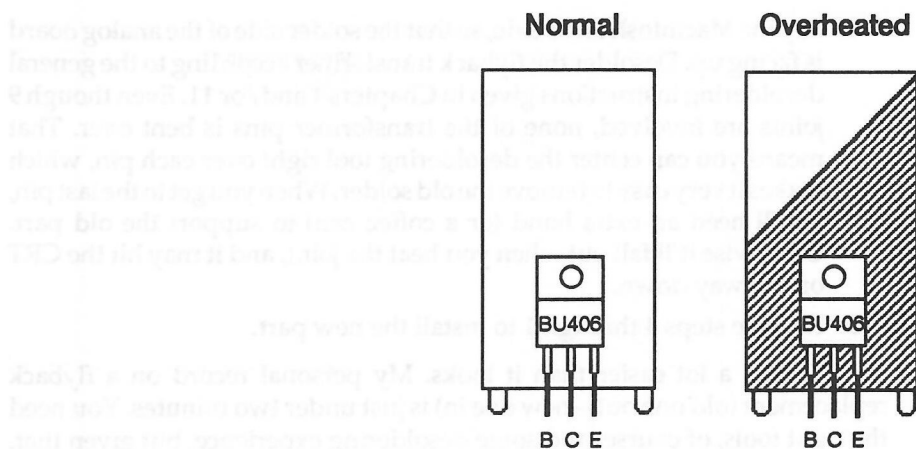

Figure 5-17 Reddish blue metal is a sure sign of overheating.
If you've got severe display distortion, wavy lines, if everything is getting darker and darker, T1 has shorted, and high current is being drawn through Q3 (INTERNATIONAL Q2). In that case, Q3 will have to be changed along with T1, even if by some miracle, Q3 still tests good. But if you only had jittering, ringing, or ozone smell (no severe distortion), Q3 will probably be OK. Whether or not you have to change Q3 depends on how soon you detect the flyback problem. As shown in Figures 5-5 and 5-7, Q3 is located at the top of the analog board, two components to the right of C1 and one component down. It's a TO-220, generic BU-406 power transistor (7 amperes, NPN silicon, 60 watts) attached to a large heat sink. If the circuit board underneath the heat sink is burned, or if the heat sink has turned reddish blue as shown in Figure 5-17, don't waste time with the following test procedure. Either sign is positive proof that the Q3 will have to be changed.
3. Turn on your multitester and set it to the R \times 100 scale. Refer to Figure 5-17 and Tables 5-5 to 5-6 to test the part.
If the heat sink metal appears reddish blue as illustrated in Figure 5-17, shine it on a wire wheel, or use some metal polish on it. You want the surface of the heat sink to be as smooth and shiny as possible. That way, the new heat sink grease won't have to work as hard. Also, you don't want to give a false impression to the next owner. If someone looks in there later and sees a reddish blue heat sink, the person's going to suspect that Q3 has failed again, when in fact, you never cleaned up from the last time.